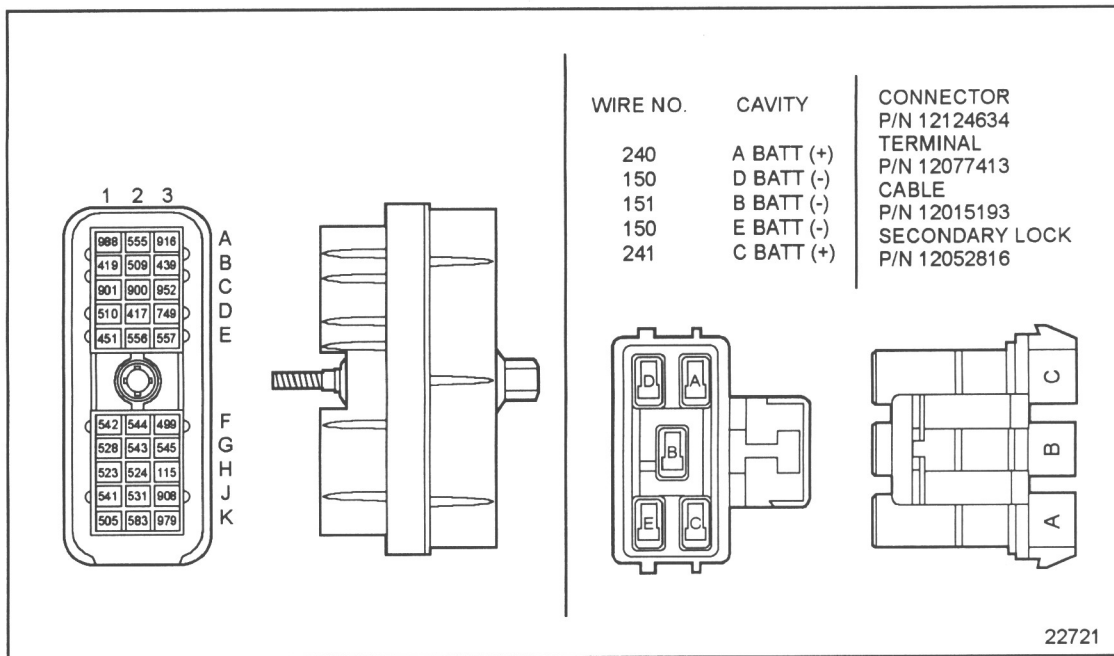

Figure 36-4 ECM Vehicle Interface Harness Connector
2. Disconnect the vehicle harness and 5-way power connectors at the ECM. See Figure 36-4.